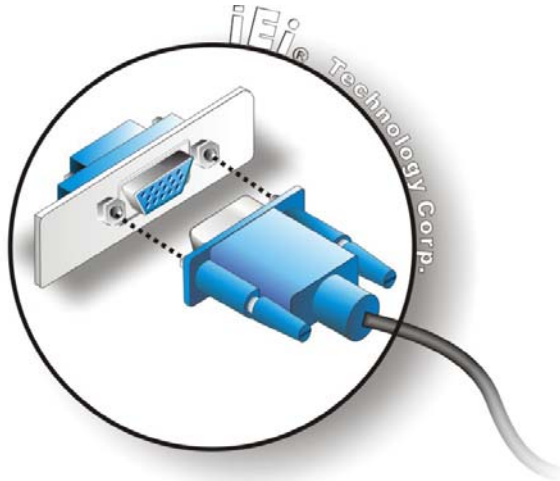

Figure 0-26: VGA Connector
- Step 3: Insert the VGA connector** Once the connectors are properly aligned with the insert the male connector from the VGA screen into the female connector on the 2807730. See **Figure 0-26**.